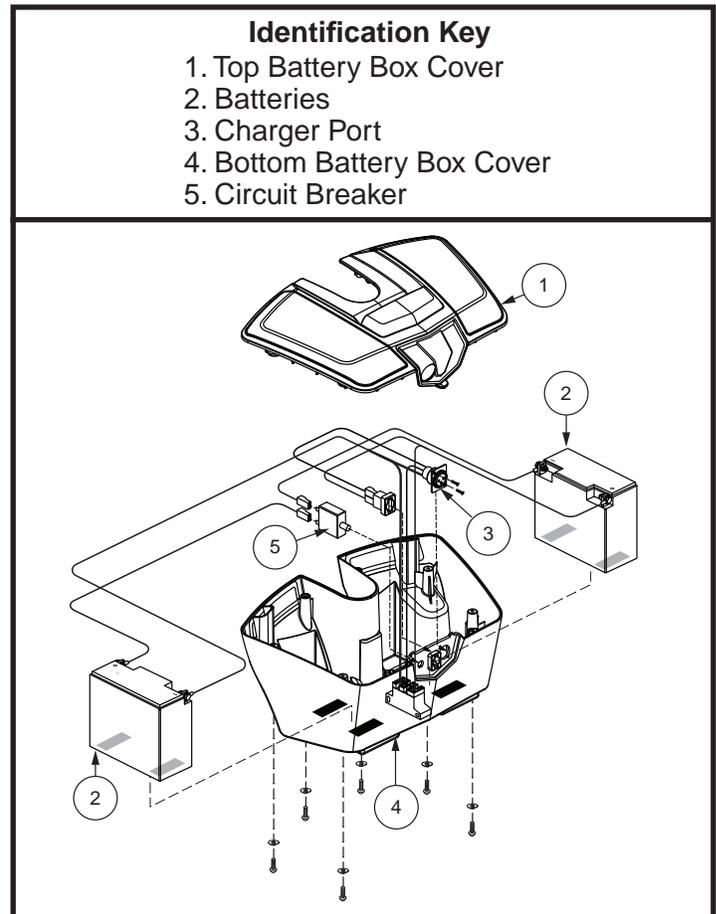

Figure 19. Go Chair Battery Box
3. Remove all screws that hold the battery box halves together. **See figure 19.**
10. Reconnect the two (2) battery cables to the battery terminals. Make sure the red cable is connected to the positive (+) terminal and the black cable is connected to the negative (-) terminal.